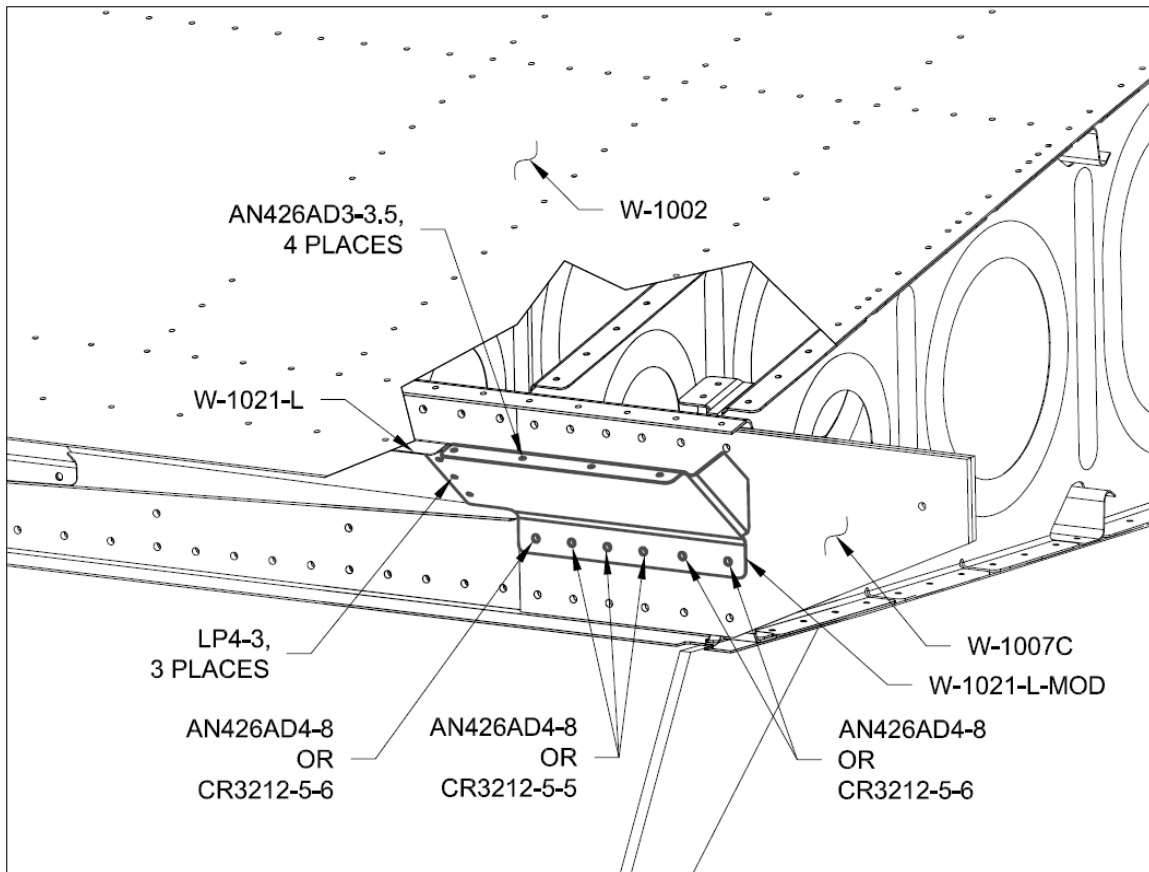

FIGURE 8: FLAP GAP FAIRING RIVETS
Step 40: Rivet the W-1021-L-MOD to the W-1002, W-1021-L, and Rear Spar Assembly as called out in Figure 8.